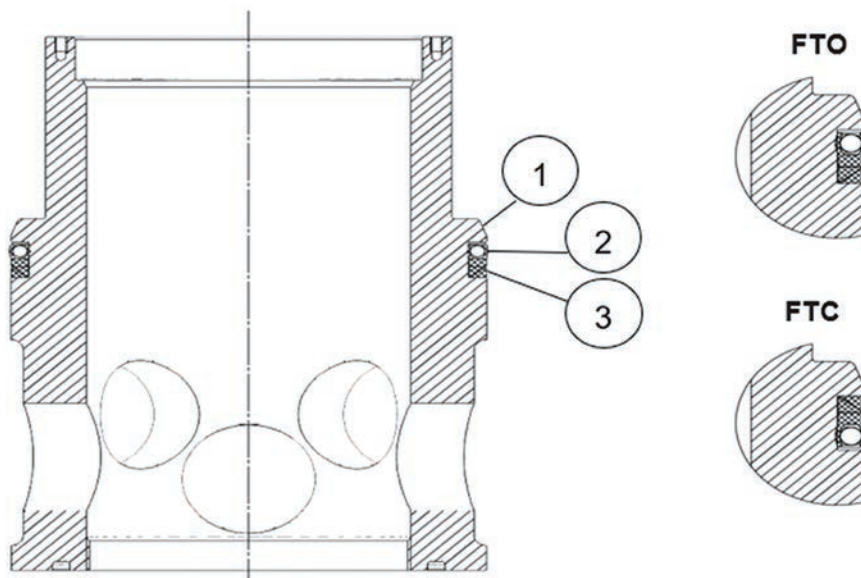

Figure 8 - Principle Diagram of the Cage Lip Seal Mounting
3. Slip the ring into the groove (without spinning it) as shown in Figure 8. This operation can be facilitated by heating the ring. The temperature of the ring should not exceed 180°C (356°F).